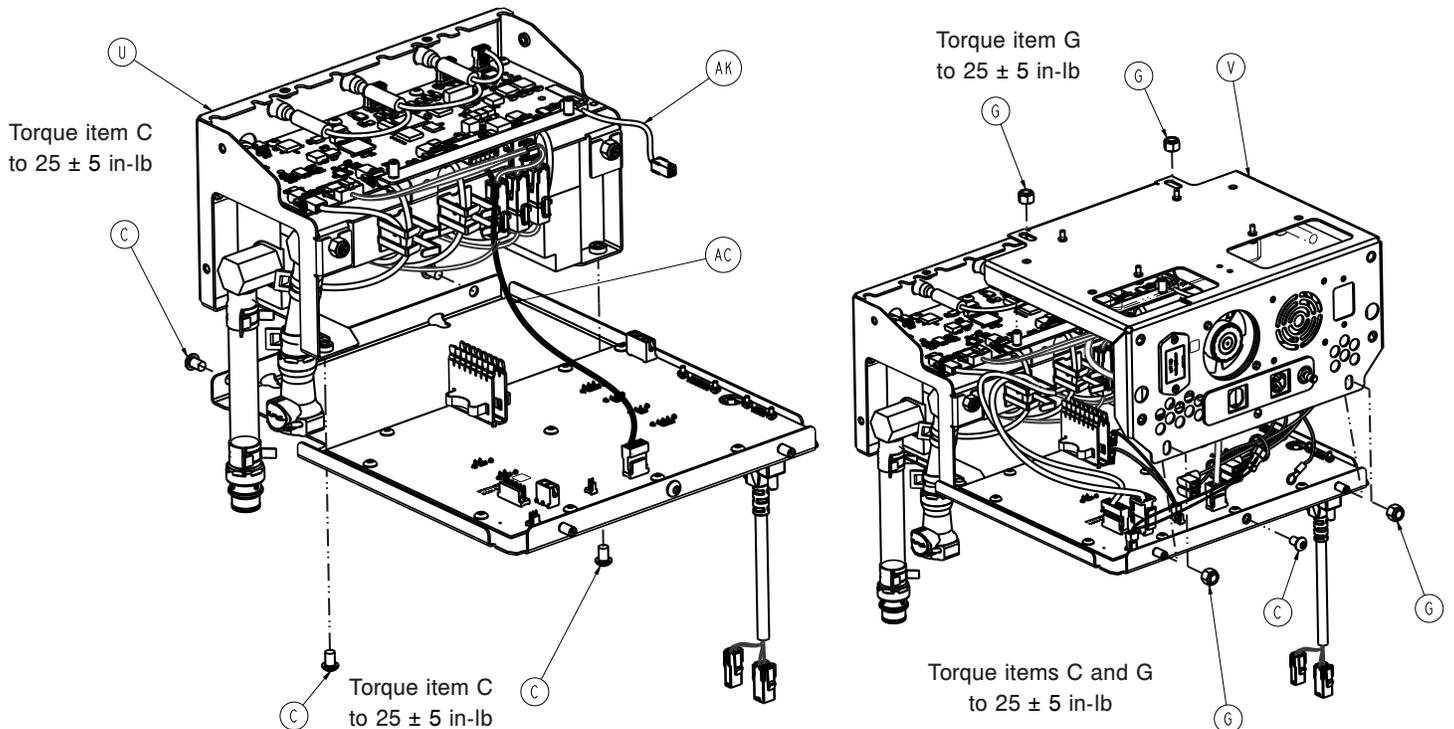

Figure 37 – Manifold assembly
17. Using a T27 Torx driver, remove the four screws (C) that secure the manifold assembly (U) to the control assembly (Figure 37). Save the screws.